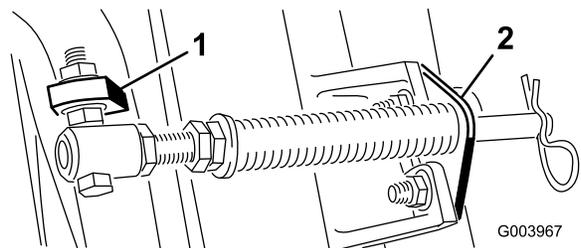

Figure 6
- D. Mount the rod bracket to the cutting unit tabs with the carriage bolts and nuts (Figure 6).
- C. Mount the spring tube bolt to the opposite tab on the carrier frame and secure with the flange nut. The bolt head is to be positioned to the outer side of the tab as shown in Figure 6.